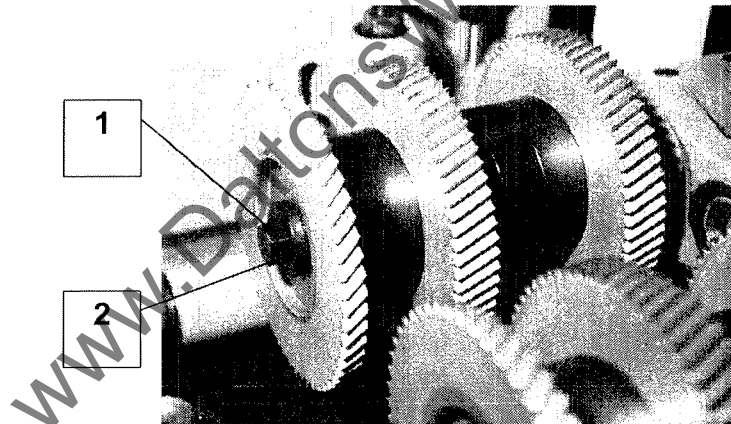

Figure 7.3.6
7.3.6 Replace Flange-Mounted Top Feed Rolls/Spacers (Figure 7.3.6)
- 1 Slacken the draw bolt (1), remove the 'C' washer (2) and withdraw the bolt.